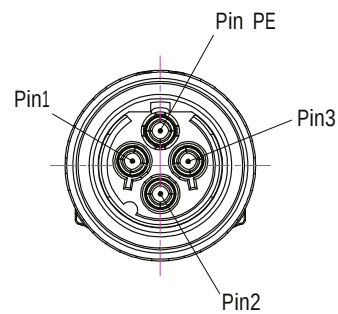

figure 4-16 Mains power cable - AC
4. Wire the power cable to the junction box or receptacle. Refer to the color code and pin numbers shown in figure 4-16 (AC cable), and table 4-3.